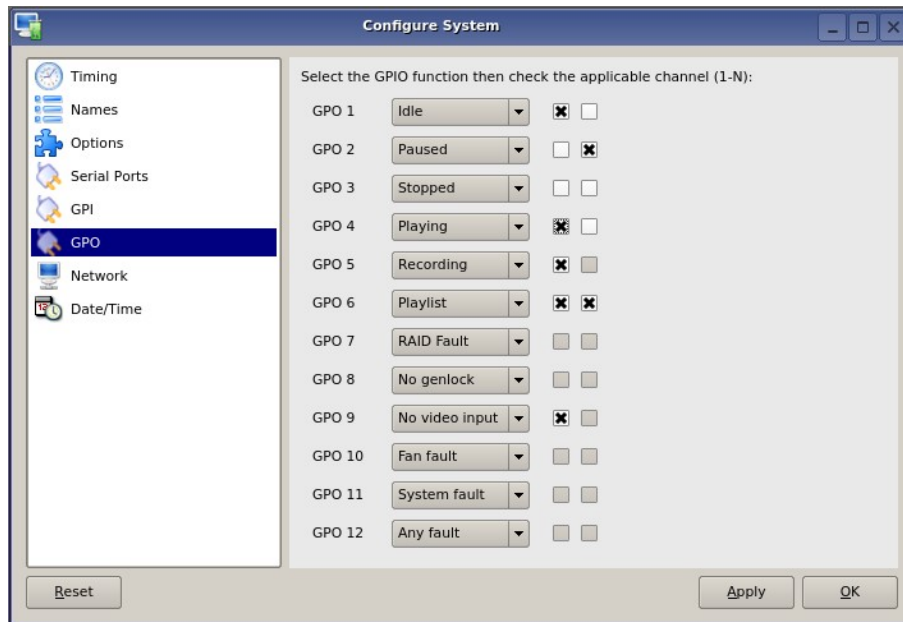

Figure 26 - GPO Configuration Screen
- A. Select **EDIT>CONFIGURE >GPO**. The screen of **Figure 26 - GPO Configuration Screen** is displayed. GPO 1 through 12 correspond to the 12 GPIO outputs. The checkboxes to the right of each selection represent channel 1, 2, 3 (and 4 in four channel models). GPO 9 is shown with the trigger option pulldown expanded.
To configure Channel Ganging Click **EDIT >CONFIGURE >TIMING** from the Main Menu. The video timing adjustment screen of **Figure 26** displayed.